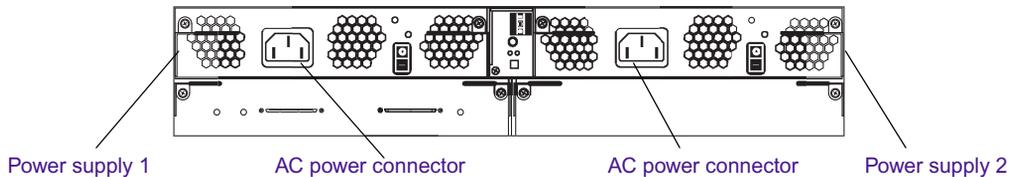

Figure 23 Connecting the MediaDock Ultra320 Power Cord
2. Plug the other end of the power cord into a surge-protected outlet (see Figure 23).